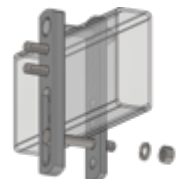

Figure 9
2. Insert the second  $\frac{1}{2}$ " x  $3\frac{1}{2}$ " bolt through the open hole closest to the bottom of the trailer frame. (Figure 9)